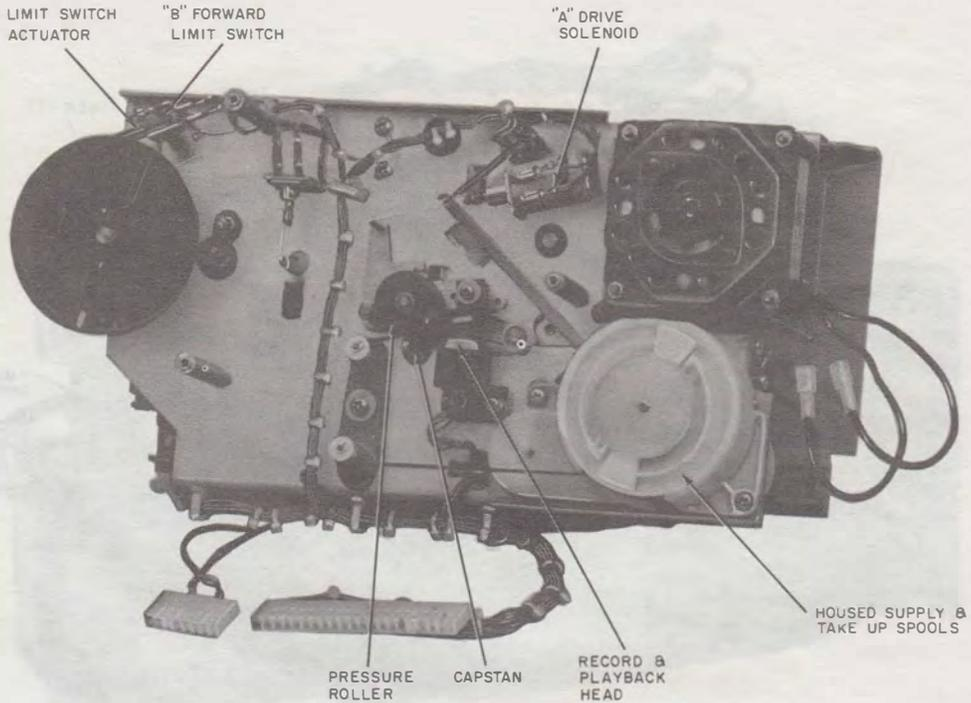
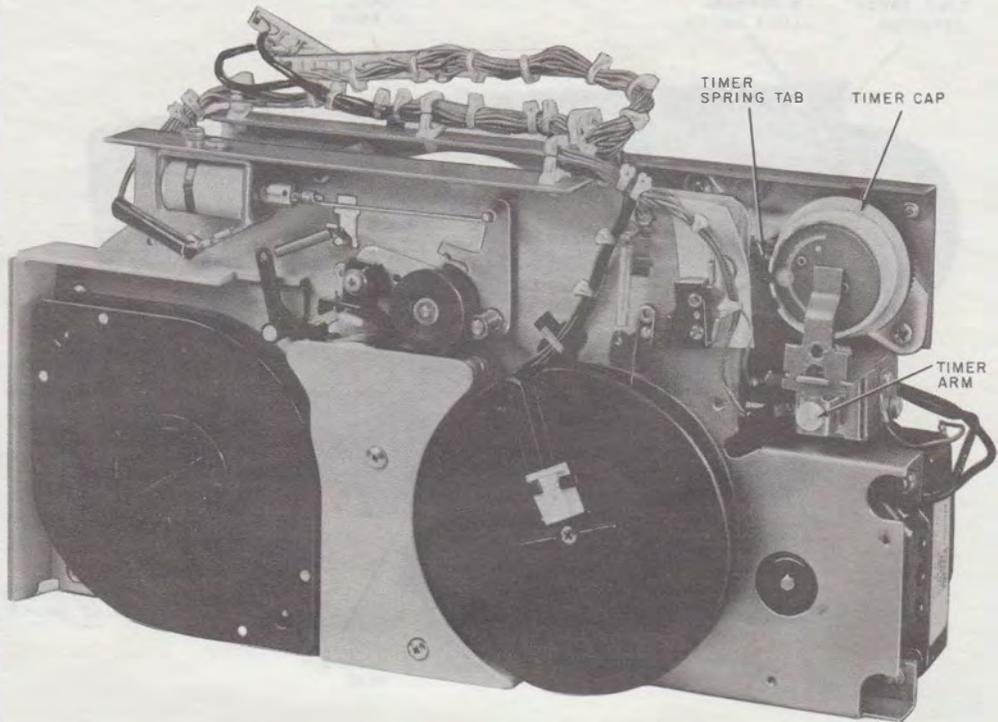

Fig. 11—KS-19245, List 21 Tape Deck With Trimplate Removed (Announcement Side)
Fig. 12—KS-19245, List 21 Tape Deck With Trimplate Removed (Message Side)
- (a) **The KS-19245, List 22 Tape Deck** (Fig. 11 and 12) contains both the announcement and message recording mechanism. The announcement record mechanism (Fig. 11) provides a maximum recording capacity of 3 minutes and incorporates a variable cycle feature that limits the reproduce cycle to the duration of the recorded announcement only. This recorder is equipped with 1/4-inch wide plastic base magnetic recording tape installed on special reels. The tape and reels form an integral part of the recording mechanism and **cannot** be changed by the customer since replacement of either requires partial disassembly of the mechanism. Facilities are provided for limiting the maximum recording time to 15-second increments (from 15 seconds to 90 seconds) or 30-second increments (from 90 seconds to 180 seconds). This is done by adjusting the timer cap. The adjustment may only be made by the installer. The incoming message recording mechanism (Fig. 12) provides a maximum recording capacity of 2 hours on 1/4-inch wide plastic base magnetic recording tape. This tape is contained in the KS-
19245, List 6 cartridge which may be conveniently changed by the customer. Facilities are provided for limiting the message recording time to 1 or 2 hours. This is done by adjusting the limit switch actuator (Fig. 11). The adjustment may only be made by the installer.